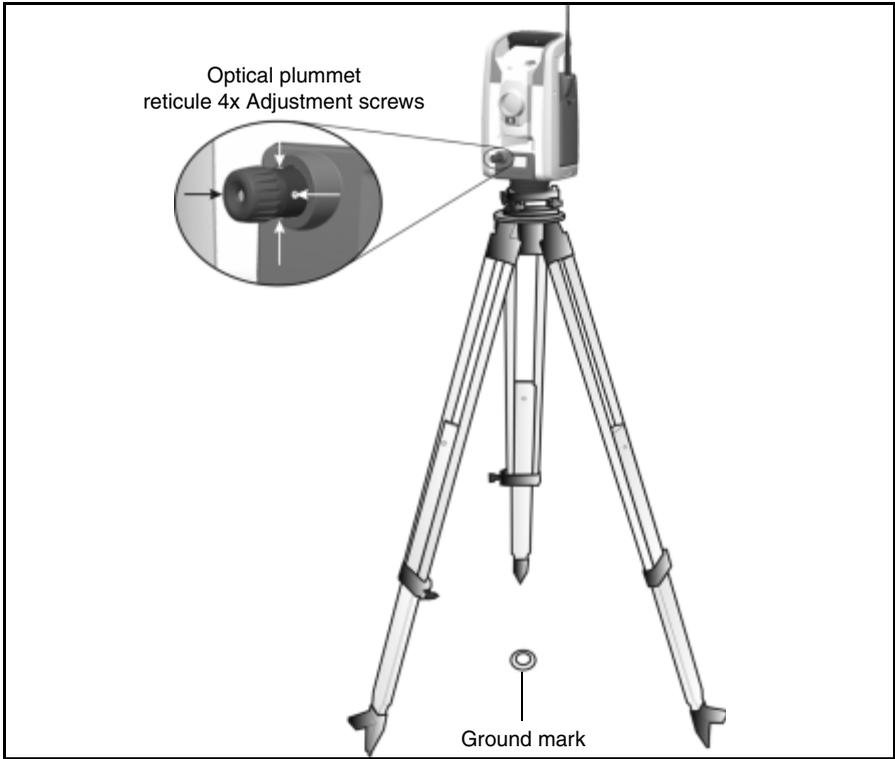

Figure 4.37 Optical plummet adjustment
1. Set up the instrument and level it over a ground mark so that the tripod height is 1.5 m (± 0.1 m) (4.920 ft. (± 0.328 ft.)), figure 4.37